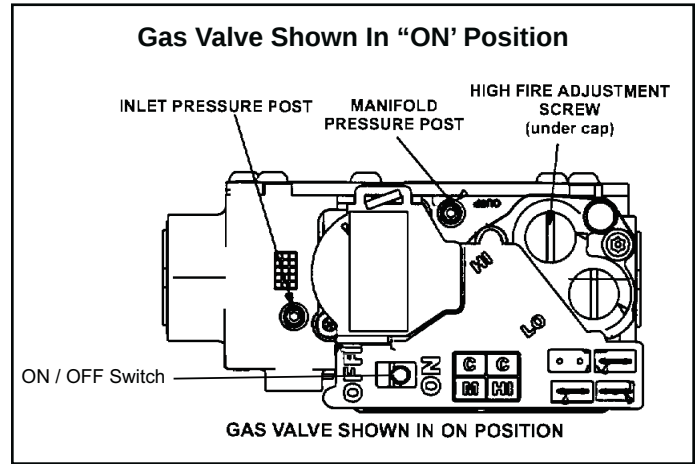

Figure 64.
6. Move gas valve switch to OFF. See Figure 64.
8. Move gas valve switch to ON. See Figure 64.
1. A manifold pressure post located on the gas valve provides access to the manifold pressure. See Figure 64. Back out the 3/32 Hex screw one turn, connect a piece of 5/16" tubing and connect to a manometer to measure supply pressure.
6. Repeat on high fire and compare to value given in Table 29. If necessary, make adjustments. Figure 64 shows location of high fire and low fire adjustment screws.